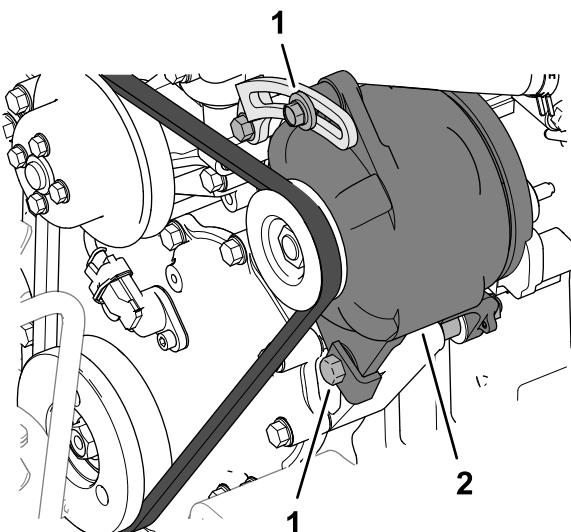

Figure 150
Check the condition and tension of the belts (Figure 150) after every 100 operating hours.
5. If belt deflection is more than or less than 10 mm (3/8 inch), loosen the alternator mounting bolts (Figure 150).